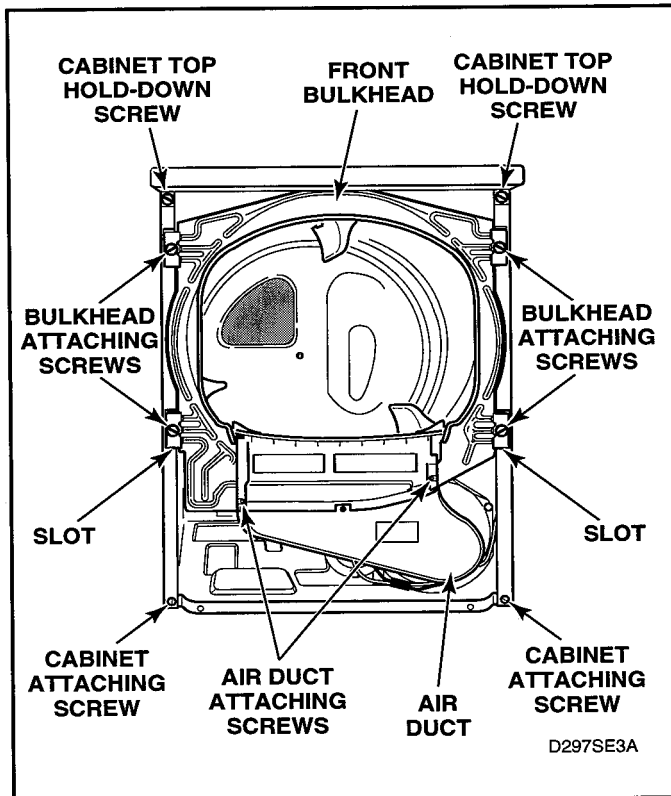

Figure 5-24
- Remove four screws holding bulkhead to front flange of cabinet and lift complete bulkhead assembly out of slots in cabinet. See figure 5-24.
- Remove four screws holding bulkhead to front flange of cabinet. Then, lift complete bulkhead assembly out of slots in cabinet. See figure 5-24.
- Remove four screws holding bulkhead to front flange of cabinet. Then lift complete bulkhead assembly out of slots in cabinet. See figure 5-24.
- Loosen two cabinet top hold-down screws. See figure 5-24.